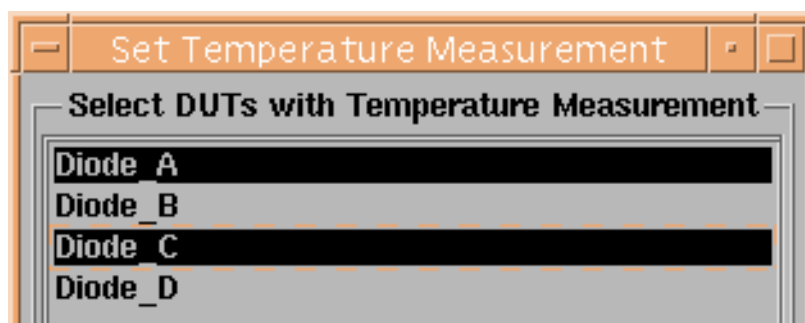

Figure 1-38. Form to define DUTs to be measured at temperatures entered on the Temperature Setup Form
- To select devices to be measured at different temperatures: Click the **Temp Meas** button on the left side of the form. You will be prompted with a list of DUTs (Figure 1-38). Select the